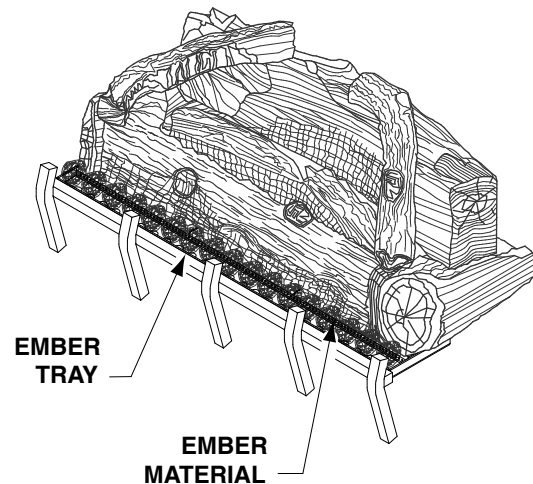

Figure 57 - Applying Ember Material
5. Break apart about quarter sized pieces and place about a single layer along the full length of the ember tray to hide the bottom edge of the base log. (see **Figure 57**).